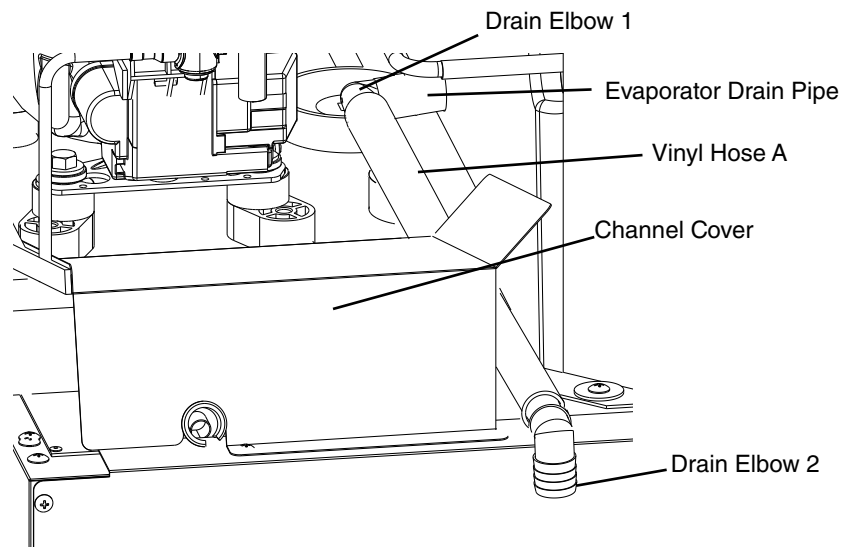

Fig. 4
6) Connect one end of vinyl hose A (15-1/8 in. (385 mm)) provided in this kit, to the open end of drain elbow 1 and route it to the back of the appliance under the channel cover. See Fig. 4.
7) Connect one end of the 2nd elbow provided in this kit, to the open end of vinyl hose A (15-1/8 in. (385 mm)). See Fig. 4. **NOTICE! Be sure drain elbow 2 is properly positioned on vinyl hose A (15-1/8 in. (385 mm)).**